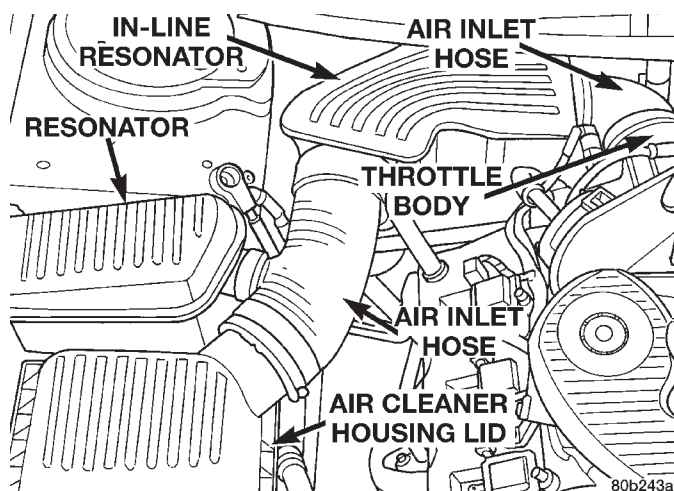

Fig. 6 In-Line Resonator And Air Inlet Hose
(8) Remove the in-line resonator and inlet hose (Fig. 6) from the throttle body and air let hose coming from the lid of the air cleaner housing.